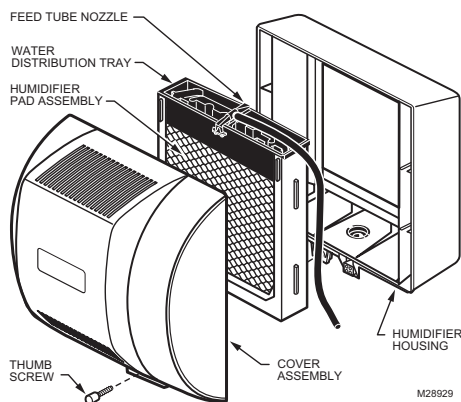

Fig. 9. Location of humidifier parts.
2. Remove the humidifier cover. See Fig. 9.